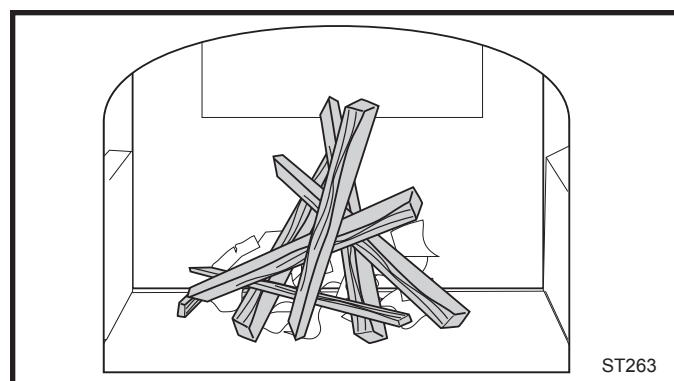

Fig. 36 Start the fire with newspaper and dry kindling.
2. Place several sheets of crumpled newspaper in the stove. Place six or eight pieces of dry kindling split to a finger-width size on the paper. On the kindling, lay two or three larger sticks of split dry wood approximately 1-2" (25-51 mm) in diameter. (Fig. 36)